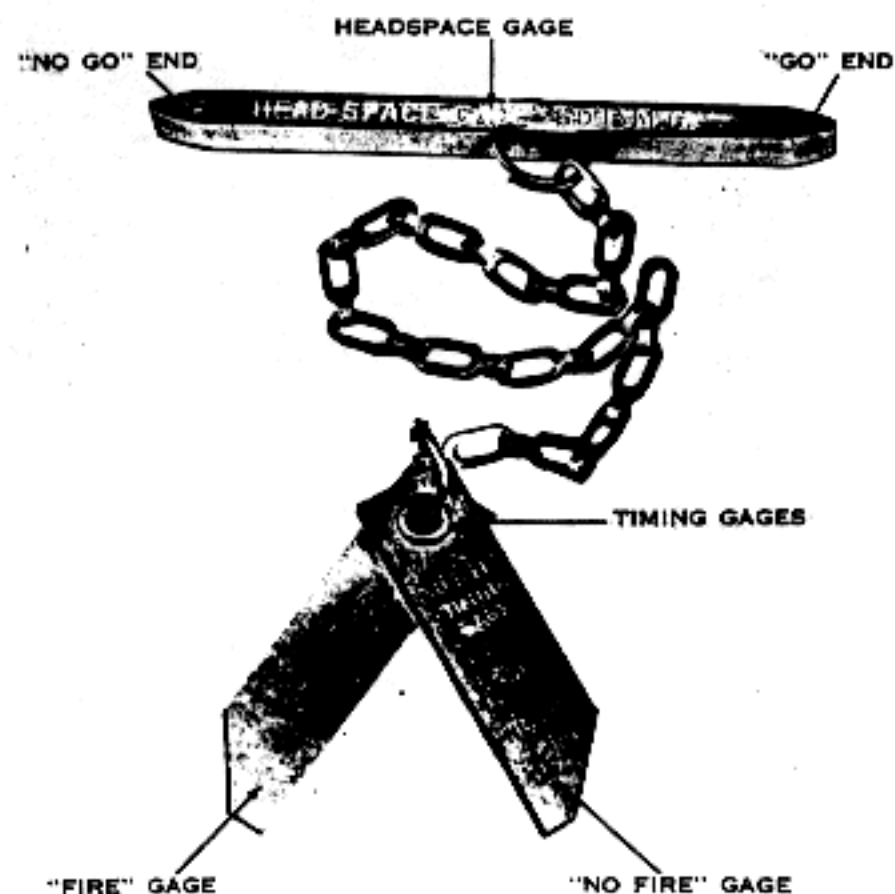

Figure 80. Headspace and timing gage.
- (1) When the gun is assembled.
- (2) When the barrel or any major group or assembly within the receiver is replaced.
- (3) When there is doubt that correct headspace is set.
*d. Gages.* The headspace and timing gage consists of a headspace gage and two timing gages (fig 80). These gages provide an accurate means